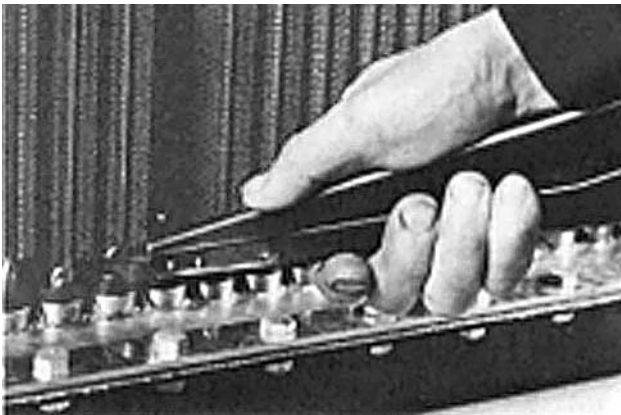

FIGURE 3-10. USING INSTALLATION TOOL TO INSTALL TUBE
6. Center the bottom end of the tube in the bottom seal. Push the tube downward until the formed bead on the tube is seated inside the lock ring groove in the seal. If necessary, use the installation tool (VJ6567) to pull the tube downward into the seal. The tool has a hooking device on the end of one of the handles for aiding in installation. Refer to Figure 3-10.